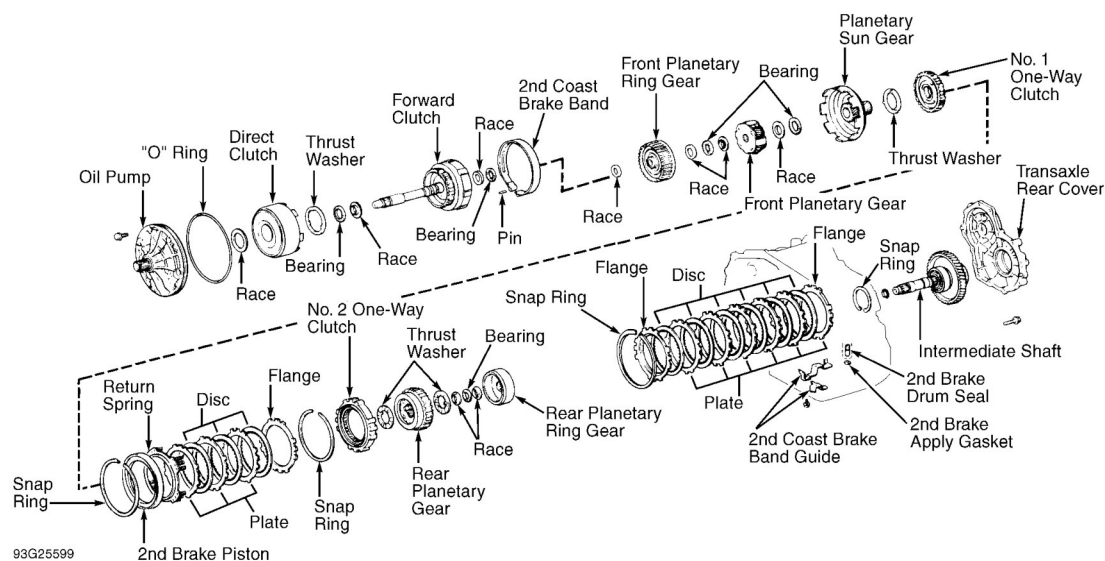

Fig. 19: Transaxle Case Internal Components (A-242L, A-241E & A-244E)
9. Remove oil pump retaining bolts. Using appropriate puller, pull oil pump free from transaxle case. Remove oil pump. Remove race from oil pump. Remove direct clutch and forward clutch from transaxle case. Remove direct clutch from forward clutch. Remove thrust washer, bearings and races from both sides of forward clutch. See **Fig. 19**.
10. Using small screwdriver, push 2nd coast brake band pin inward and remove pin from oil pump mounting bolt hole. Remove 2nd coast brake band. Remove front planetary ring gear. Remove race and bearing from ring gear. See **Fig. 19**.
12. Remove 2nd brake drum retaining snap ring. Remove 2nd brake drum. Remove thrust washer and 2nd brake piston return spring. Remove plates, discs and flange. Note number and location of components. Remove No. 2 one-way clutch retaining snap ring. Remove No. 2 one-way clutch and rear planetary gear. See **Fig. 19**.
18. Remove parking lock pawl stopper plate, torsion spring and spring guide. Remove pawl shaft clamp, shaft and lock pawl. See **Fig. 19** . Remove underdrive brake accumulator piston cover and gasket. Remove accumulator piston and spring.